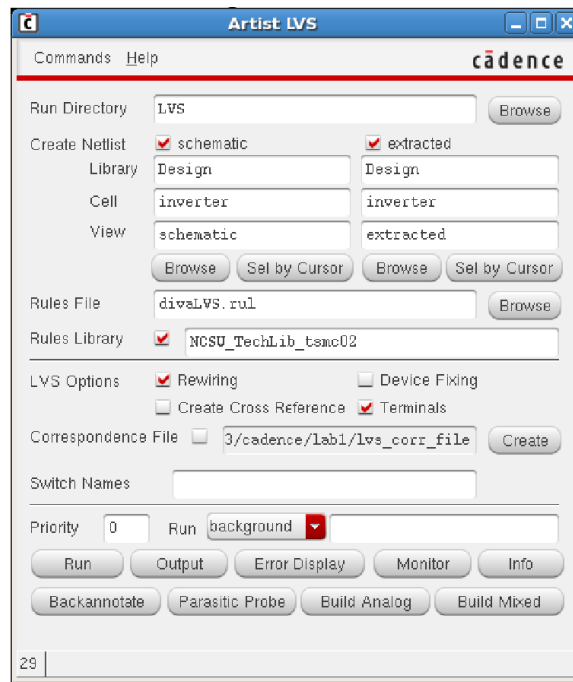

Figure 16. LVS window
- In the extracted view choose “Verify > LVS”, then LVS form pops up. LVS comes from Layout Versus Schematic. In field “schematic” and “extracted”, fill in proper names of Library, Cell and View. You can click button “Browse” to do it. Click “Run” to start with LVS. Please see the Figure 16 below.